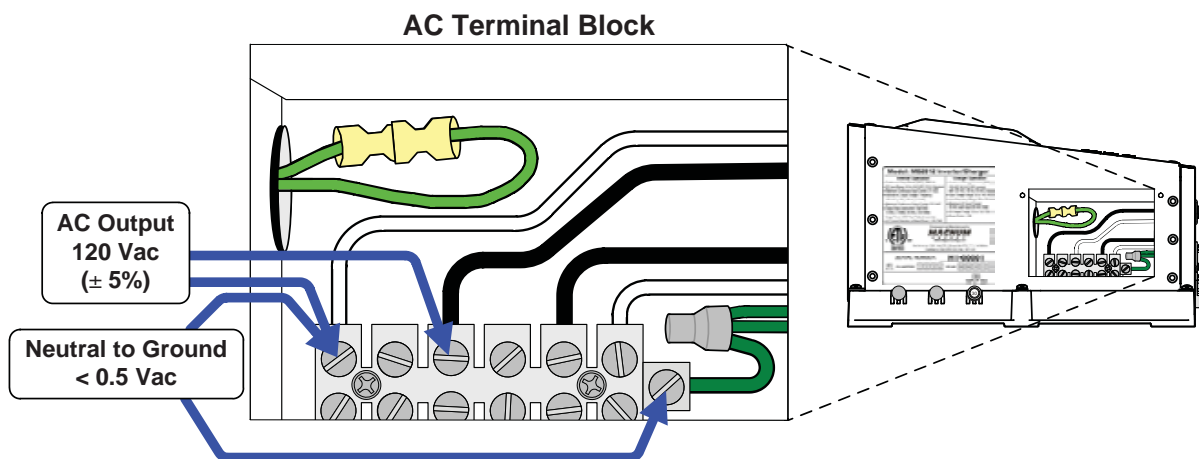

Figure 2-25, AC Voltage Checks
5. Check the AC output voltage of the inverter by connecting an AC voltmeter to the output terminals as shown in Figure 2-25 (verify the correct output voltages).